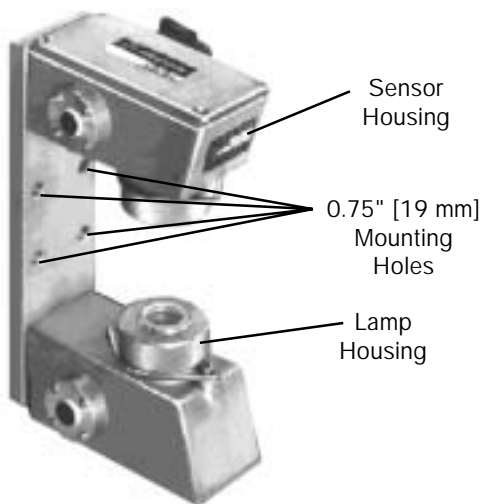

FIGURE 4
1. Vertically mount both PH30P and PH11P with the sensor housing at the top and the lamp housing at the bottom, in order to eliminate ambient light from the sensor (See Figs. 4 & 5).